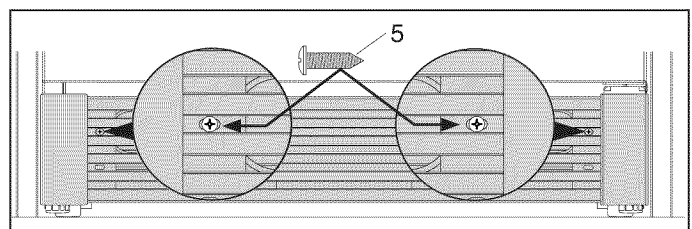

Figure 19.
**(Single Unit)** Attach the kick plate to the cabinet with two (2) screws. (See Figure 19)